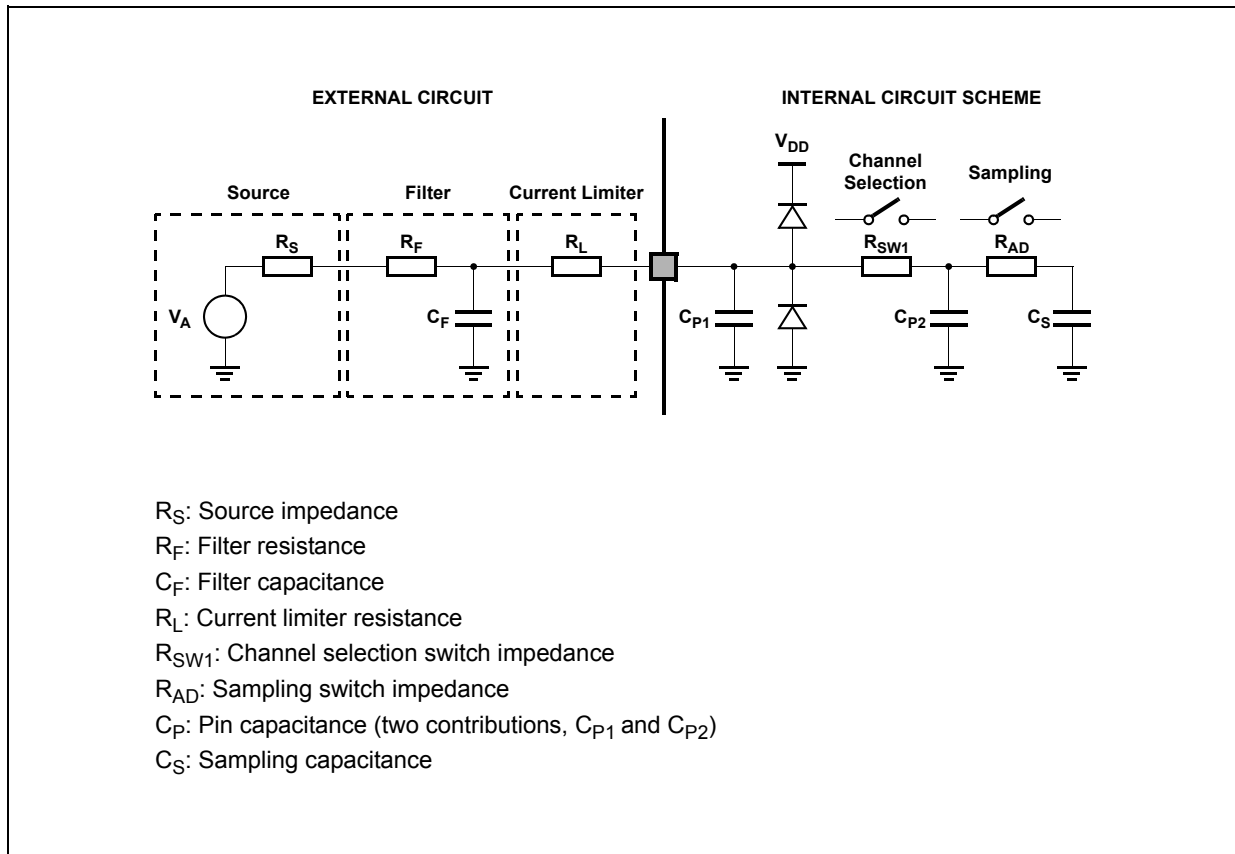

Figure 15. Input equivalent circuit
A second aspect involving the capacitance network shall be considered. Assuming the three capacitances C_F , C_{P1} and C_{P2} are initially charged at the source voltage V_A (refer to the equivalent circuit reported in Figure 15): A charge sharing phenomenon is installed when the sampling phase is started (A/D switch closed).
- ¹⁰ See Figure 15.